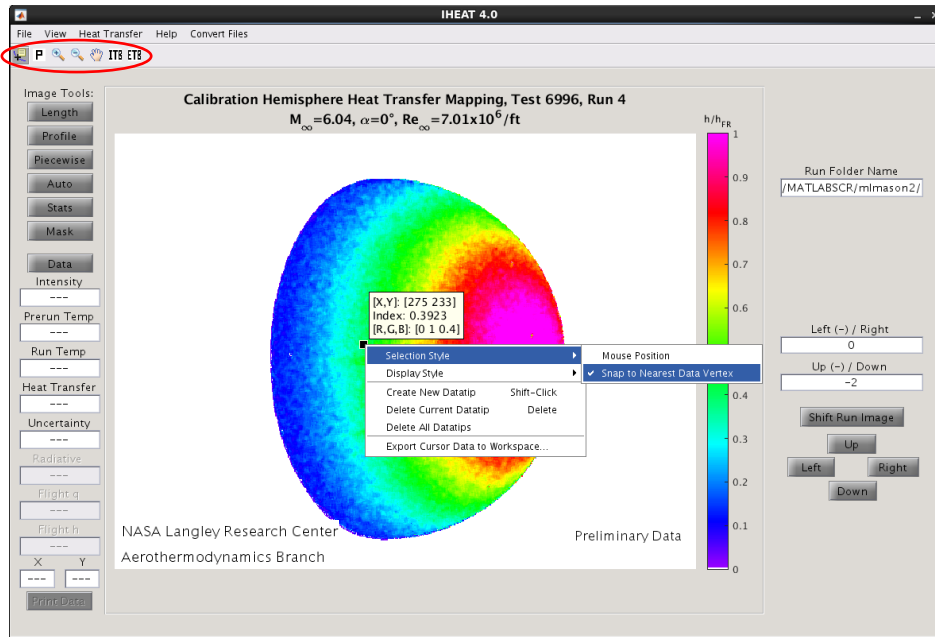
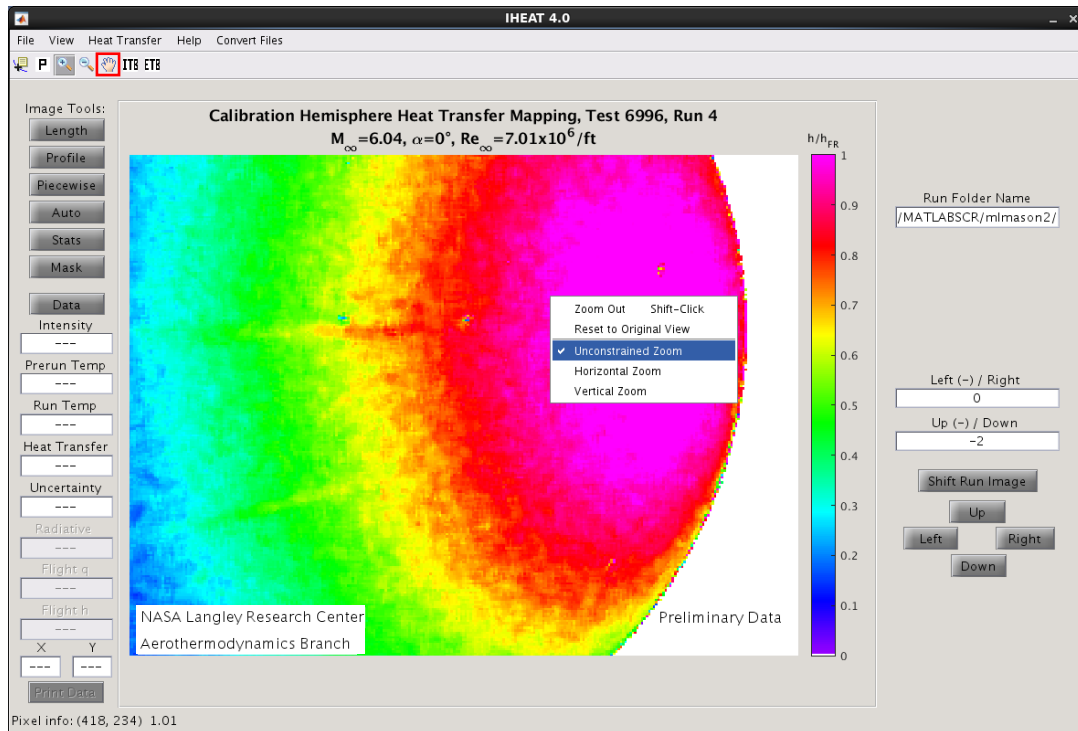

Figure 10: Toolbar Menu, Data Point Cursor.
Figure 12: Toolbar Menu, *Zoom and Pan*.
1. The first item to the left in the red circle in figure 10 is the data point cursor. After clicking on this tool, the user can click anywhere in the image to obtain data for a given pixel location. As the data point on the hemisphere model in figure 10 shows, this tool lists the x and y pixel location, the color index, and the red, green, and blue indices for the point on the image indicated by a black rectangle. The color index will be the intensity, temperature, heat transfer, or uncertainty value at the pixel indicated on the model, depending on which parameter is displayed in the image.
With the left mouse button, the user can either click on a different pixel location in the image or drag the current data point to a different position to change the location of the current data point. Right clicking on this data point opens another menu, also shown in figure 10, which allows the user to delete data points (called a *datatip* in the built-in menu), create a new data point, or change the style of the tool. Though the option to *Export Cursor Data to Workspace* is visible in this default menu, this option does not work correctly in the stand-alone executable IHEAT v4.0 software, and therefore, should not be used.
3. The next two buttons on the toolbar menu in figure 10 resemble magnifying glasses with either a “plus” or a “minus” sign in the middle. These tools allow the user to zoom in or out from an image, respectively. When the *Zoom In* button is highlighted, the image is magnified by a factor of two each time the user single-clicks on the image with the left mouse button, or rotates the mouse scroll wheel forward one click. Another way to zoom into the image is to drag the mouse (while depressing the left mouse button) over a region of interest on the image. To zoom out, the user can rotate the mouse scroll wheel backward one click or hold the shift key while clicking on the image with the left mouse button. When the user double-clicks on the image, the original view is restored. The user can also right click to see zoom options, as shown in figure 12, such as *Reset to Original View*. If the *Zoom Out* button is selected, the same zoom options are available, except the left-click and shift + left-click options are reversed.
4. The next icon in the toolbar menu in figure 10 allows the user to pan a zoomed image. When the *Pan* tool is selected, the cursor icon changes to a hand when the user scrolls over the image, which resembles the hand enclosed in red in figure 12. The user then can click and drag points on the image with the left mouse button to pan the image. A right click shows a menu with pan options similar to the zoom options described above.